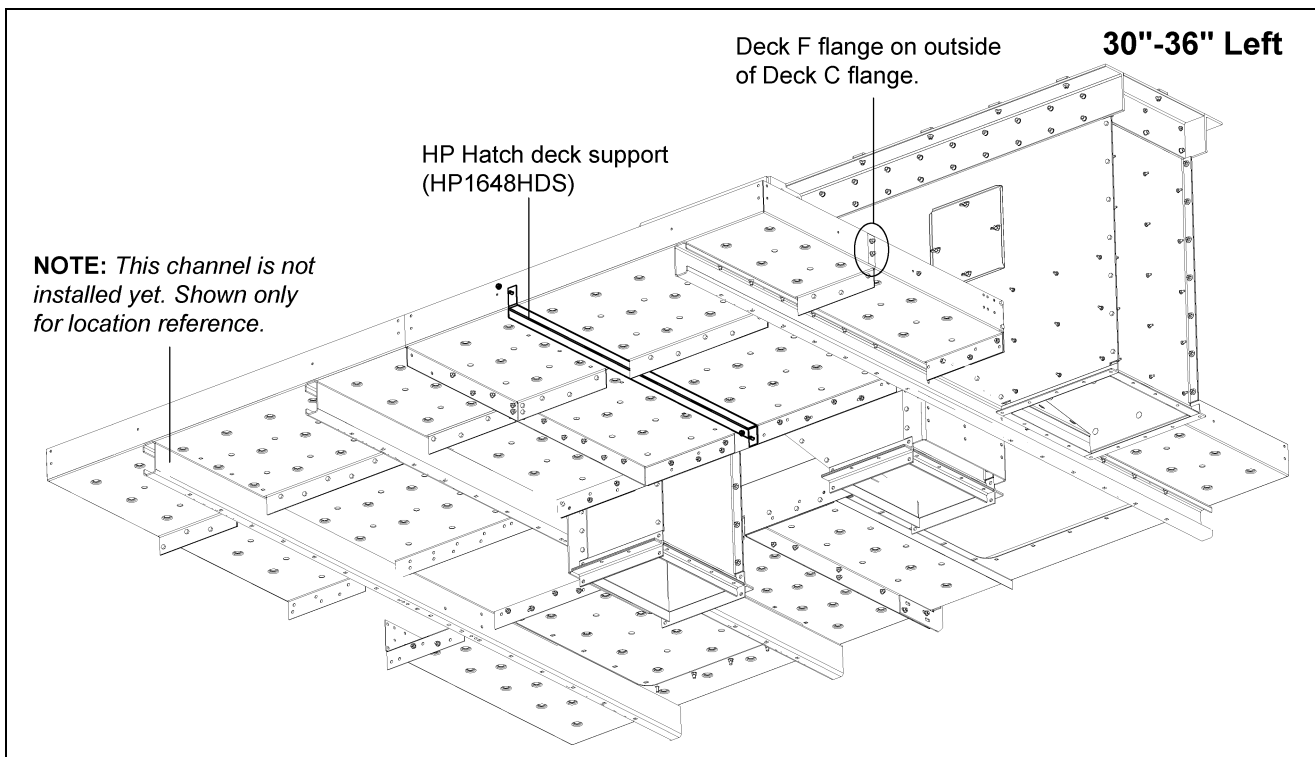

Figure 9N
7. Install the head platform hatch deck support (HP1648HDS) under Deck C and Deck F using 3/8" x 3/4" bolt (S-7105) and nut. (See Figure 9N.) NOTE: You may need to remove a bolt from the toe board if one was installed in this location.